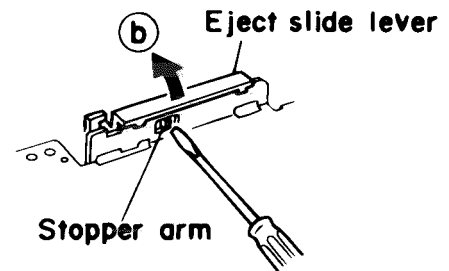

Fig.2-11
■ Eject slide lever (Fig.2-11)
1. Place the cassette mechanism back side frontward and disengage the stopper arm (b) of the Eject slide lever by pressing it inwards through the opening of the chassis with a small screwdriver as shown in Fig.2-11.